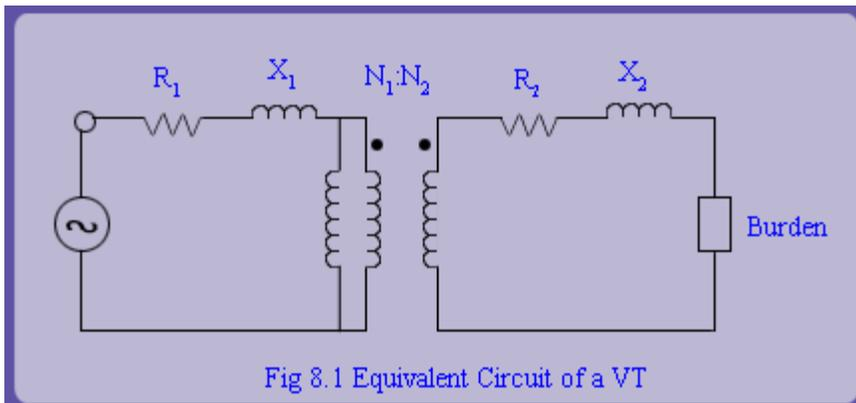

Fig 8.1 Equivalent Circuit of a VT
Many relaying applications like distance relays, directional overcurrent relays require measurement of voltages at a bus. This task is done by a voltage transformer (VT). The principle of a voltage transformer is identical to the conventional transformer. Hence, its equivalent circuit can be represented as shown in fig 8.1.